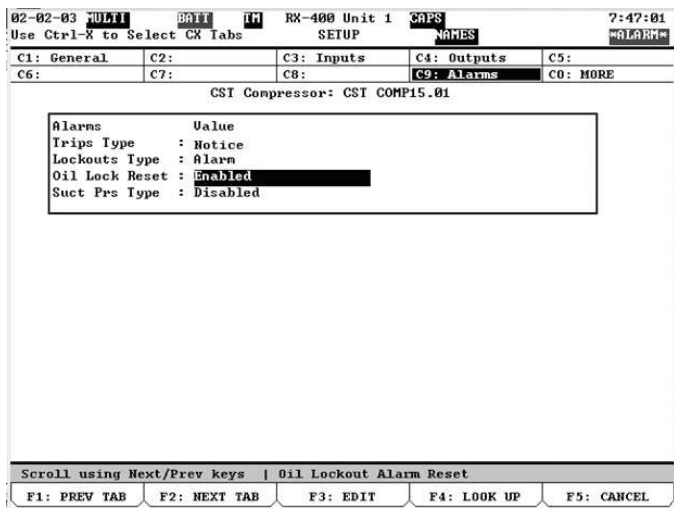

Figure 3.27 CST Setup Screen (Alarm Tab)
2. Change the selection next to Oil Lock Reset to “Enabled”. The screen should look like figure 3.27 below.